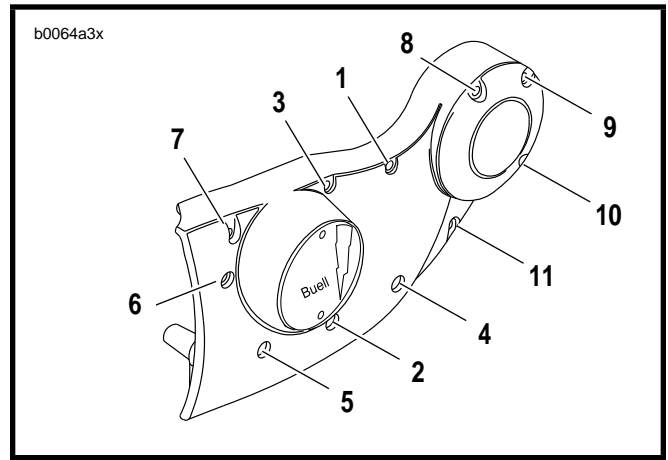

Figure 3-63. Gearcase Cover Mounting Screw Torque Sequence
5. Install gearcase cover over all gears and onto right crankcase half (10). Secure cover to crankcase half with 11 socket head screws. Tighten screws evenly to 80-110 **in-lbs** (9.0-12.4 Nm) according to the torque sequence shown in Figure 3-63.